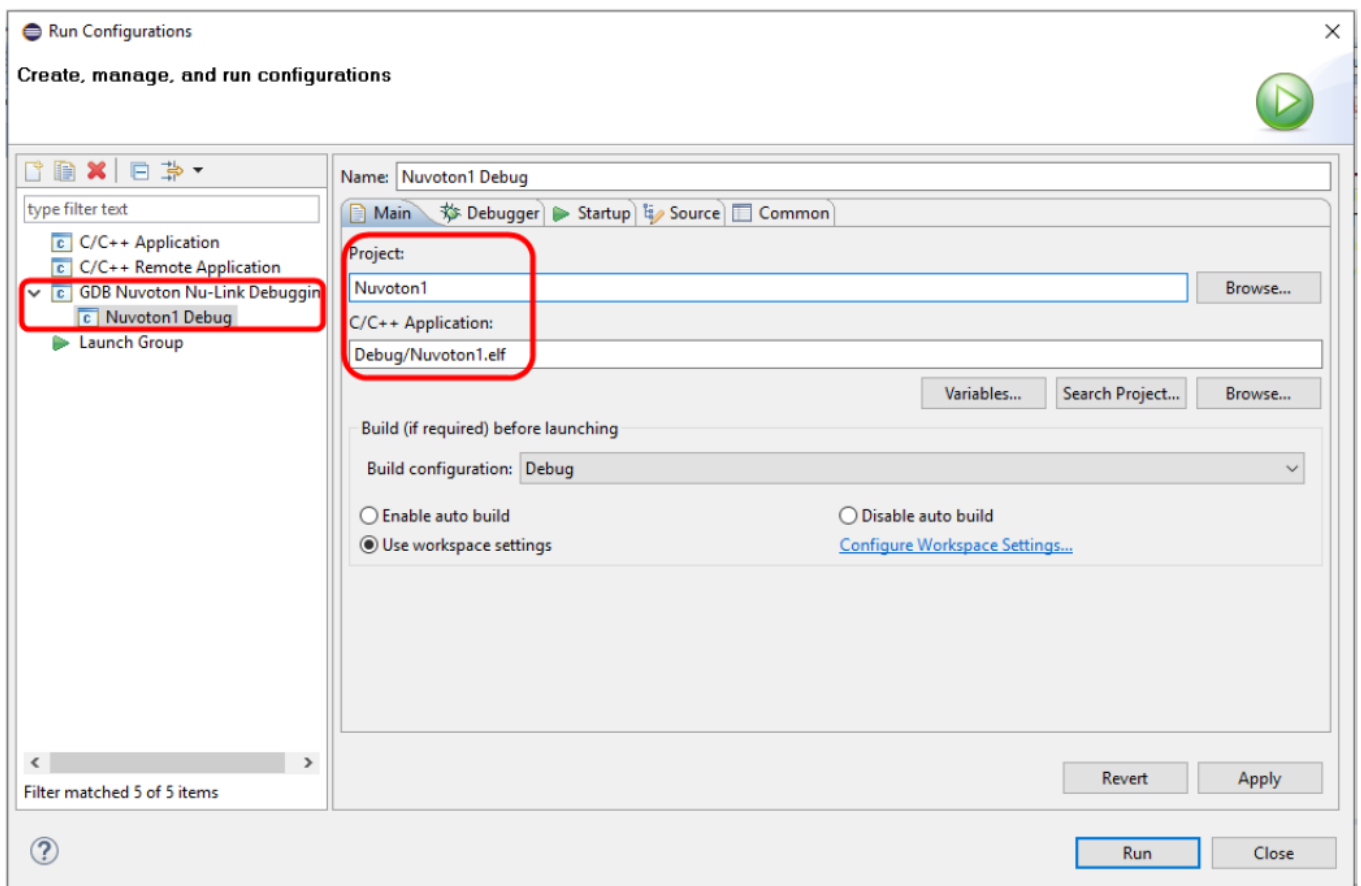

Figure 4-21 NuEclipse GCC Debug Configuration
Step 3: Into the debug mode, we have to prepare a debug configuration, which contains all the necessary information about the debug mode. Click **Run > Debug Configuration...** to open the debug configuration dialog. Double click on the GDB Nuvoton NuLink Debugging group. The Nuvoton Nu-Link debug configuration appears on the right-hand side. In the Main tab, the name of Project should coincide with the project name. The C/C++ Application should point to the .elf application generated by the build process. As shown in Figure 4-21. If the project name or C/C++ Application is incorrect, please select the expected project first in the project view, build the project to generate the executable, and expand the tree to make sure the existence of the generated executable. Then repeat the former operations again.